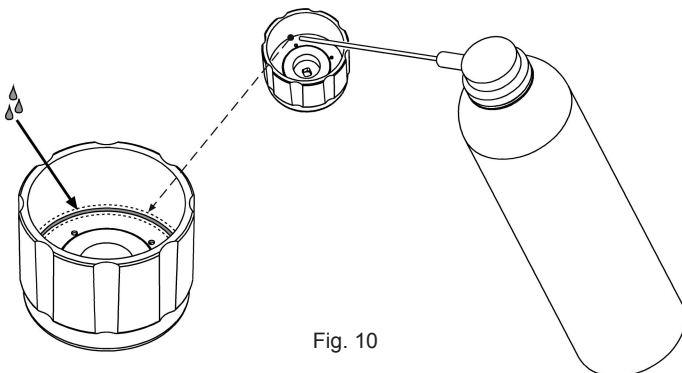

Fig. 10
- 3 Lubricate with a commercial surgical grade instrument lubricant on the points shown in Fig.10;